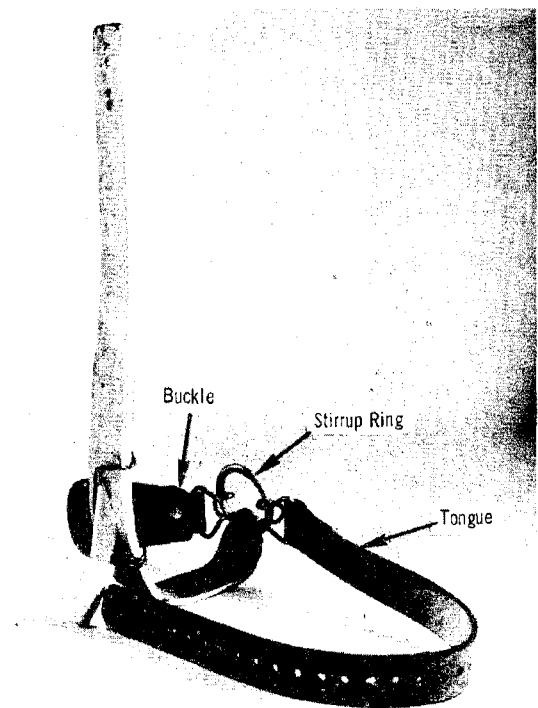

Fig. 5 - C Climber Foot Strap Installed on Right Climber
2.05 C Climber Foot Straps, Fig. 5, are used on the stirrup rings of adjustable climbers to fasten the climber to the foot. A C Climber Foot Strap consisting of a tongue and buckle that can be clipped to the climber stirrup ring is placed on the climber so that the buckle will be across the foot instep when fastened.